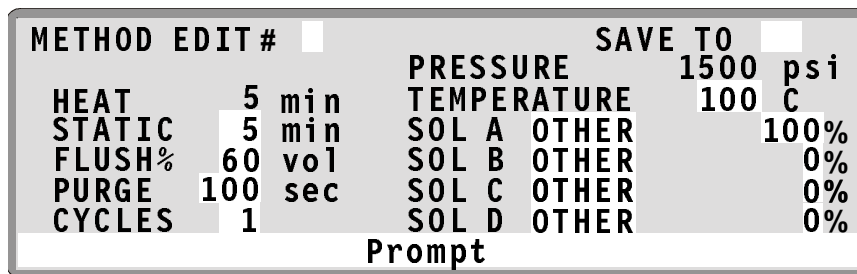

Figure 3-10. Method Editor Screen (Default)
1. Press **Menu** to display the **MENU OF SCREENS** and press **3** to display the **METHOD EDITOR**. If you are opening the screen for the first time after power-up, the screen displays the default method parameters (see Figure 3-10). Thereafter, the screen displays the last method that was edited (if any) or the default parameters (if there is no previous method).